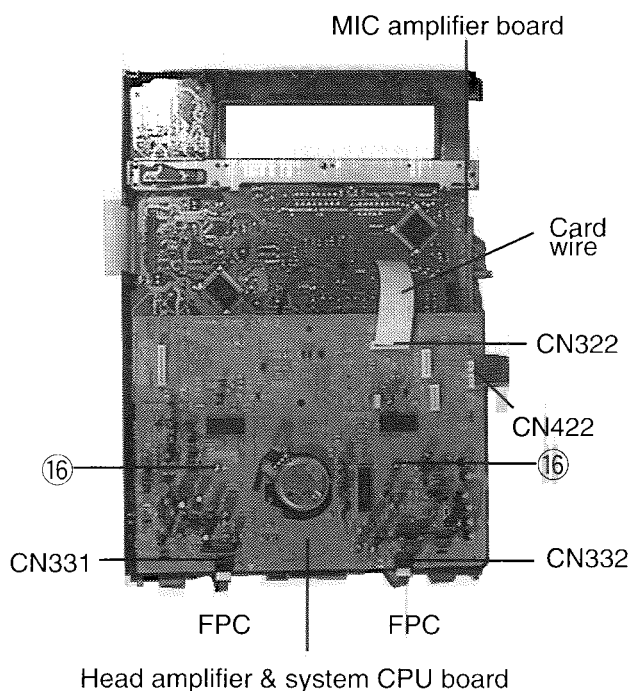

Fig. 15
■ Removal of the Head amplifier & system CPU board (See Figs 15,16)
5. Remove the two screws ⑯ fastening the head amplifier & system CPU board from the inside of the front panel assembly. (See Fig. 15)